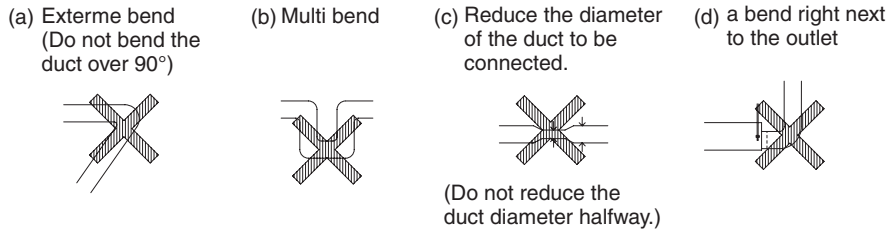

Fig. 15
- Do not connect the ducts as shown in Fig. 15.